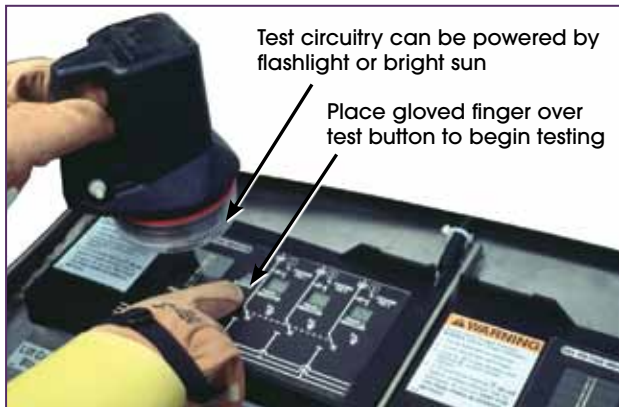
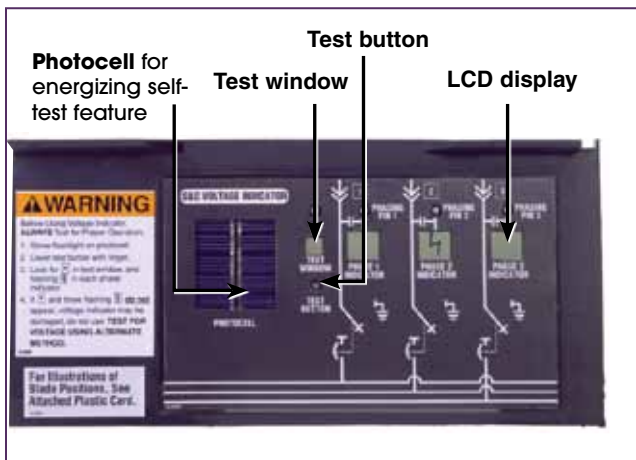

Figure 5. Testing the voltage indicator.
Figure 4. Voltage indicator.
2. Confirm that the cable is de-energized so it can be safely grounded. With traditional gear, the medium-voltage cables must be tested directly using a clampstick-mounted tester. But voltage testing with Vista UDS can be accomplished simply and easily without ever accessing the cables. Simply use the voltage indicators shown in Figure 4. The voltage indicator is even equipped with a self-test function, so you can “test the tester.” See Figure 5.